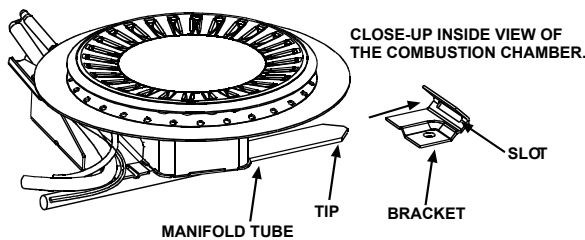

FIGURE 29.
3. Insert the new manifold/burner assembly into the burner compartment, making sure that the tab of the manifold tube engages the slot of the bracket inside the combustion chamber (Figure 29).